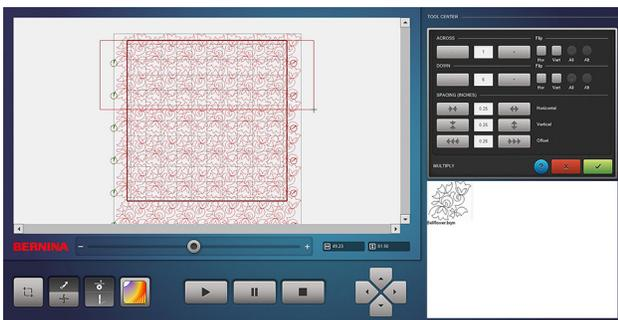

Fig. 54
10. Under DOWN, add additional rows to fill the quilt grid. In this example, a total of 6 rows were used (Fig. 54). Adjust the position of the layout so that it fits over all sides of the grid.